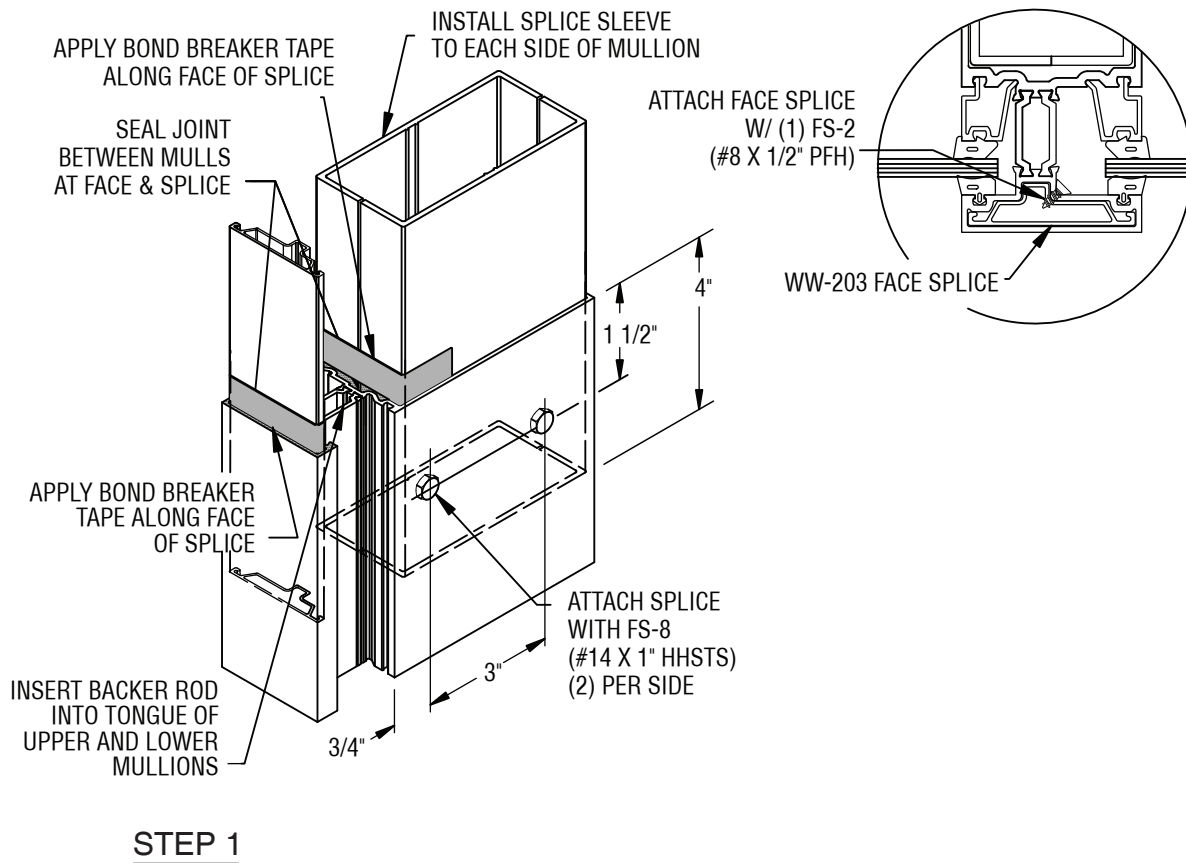

Figure 29
- B.1 Apply bond breaker tape to the face of backmember splice sleeve, returning back on the sides 1" minimum. Apply bond breaker tape around entire perimeter of face splice sleeve. Insert backer rod into the hollow section at the struts. Seal all around splice joint from the face to the 1" return on the backmember. Tool sealant to follow the contour of the glazing reglets to insure a good seal when gaskets are installed. **SEE FIGURE 29.**